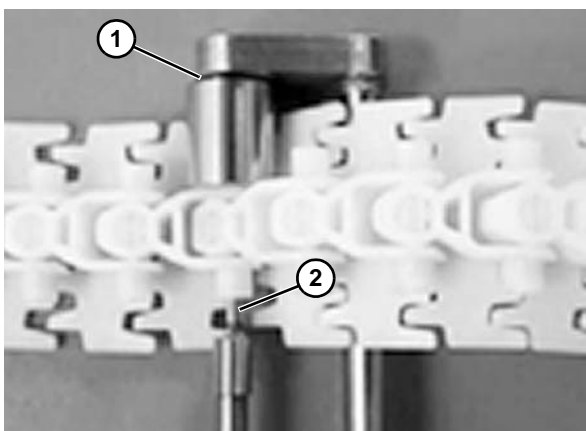

Figure 48
3. Line the FlexMove chain tool (**Figure 48, item 1**) up with the pin (**Figure 48, item 2**). Slowly depress the trigger until the pin seats. A slight detent will be felt when pin is seated.